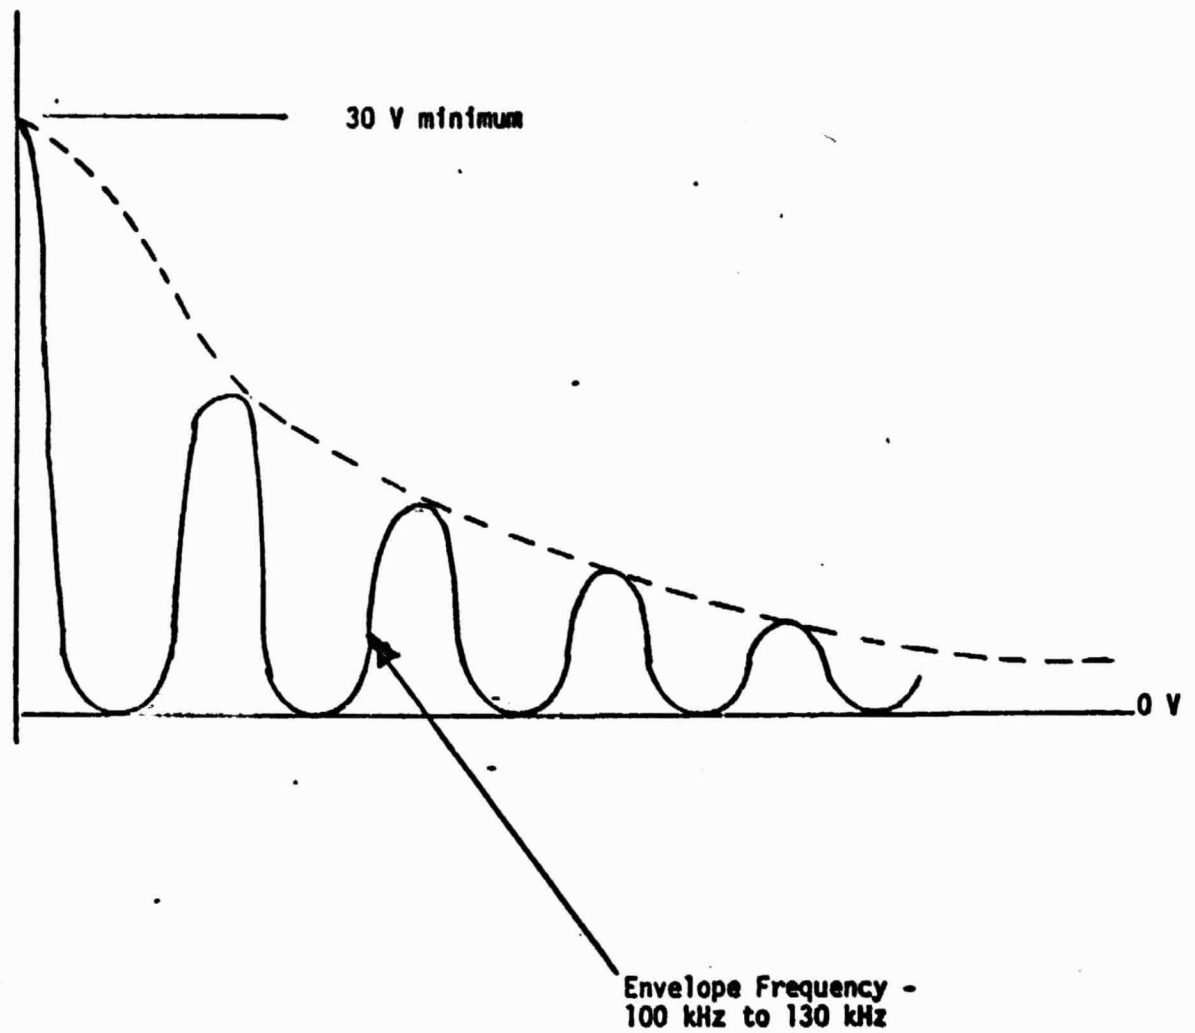

Figure 4. Ignition Pulse
- \*3.6.2.5 Continuously depress the "Sun Pulse" switch, and adjust C85, C86 until an output frequency is noted on the oscilloscope per Figure 4. C85, C86 will control frequency. Record data.
- \*3.6.2.11 Verify an output on J4-3 per Figure 4. NOTE: It may be necessary to turn power ON/ OFF several times in order to observe the output at J4-3.